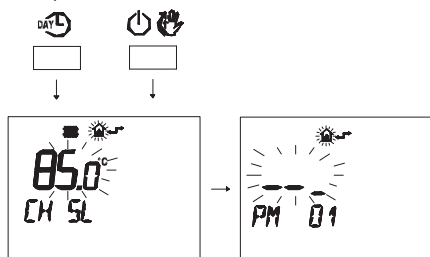

Fig. 8.19
- Press buttons **DAY** and **ON/OFF** at the same time to enter transparent programming (Fig. 8.19).